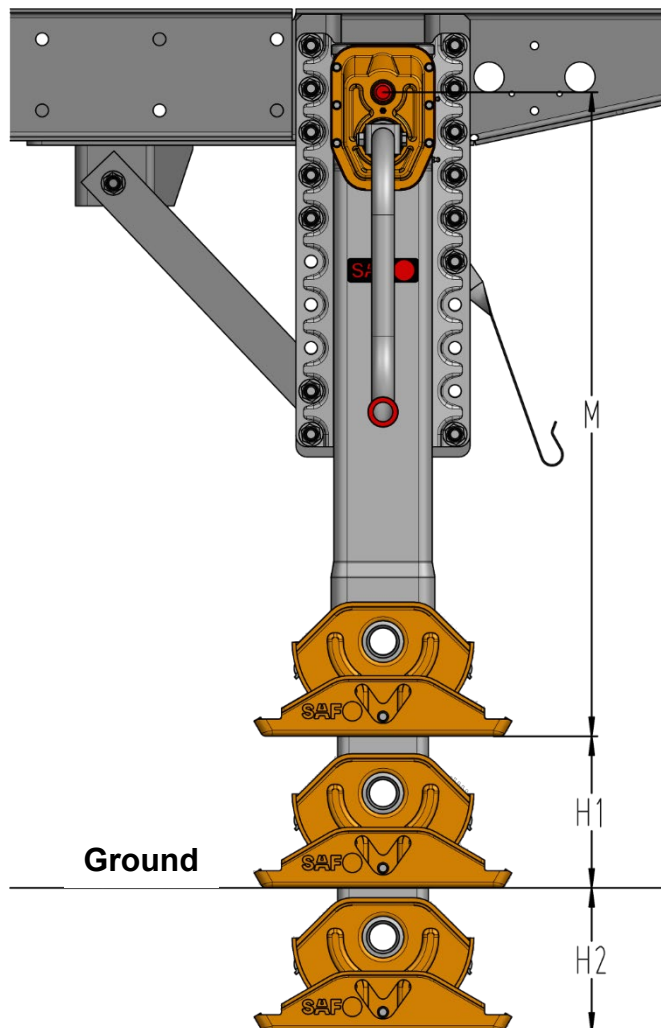

Figure 27
- Mounting instructions, mounting height, ground clearance and the required lift reserve must be observed (see Fig. 27).